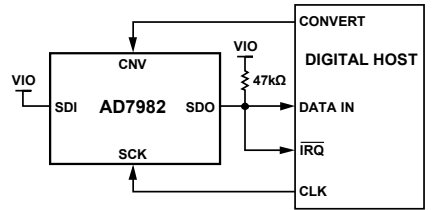
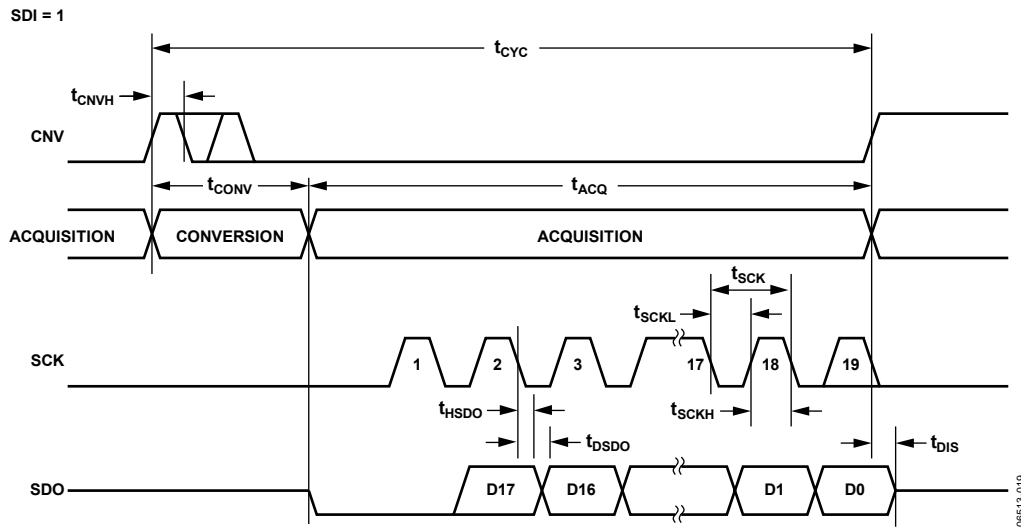
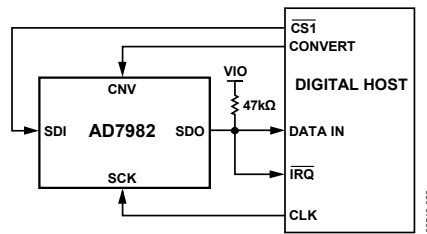
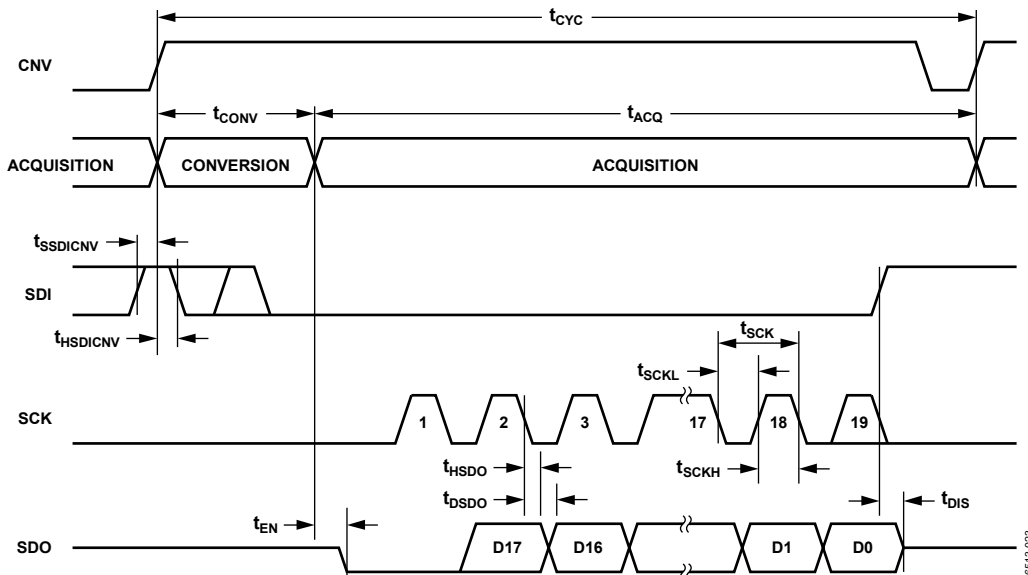

Figure 30. \overline{CS} Mode, 3-Wire with Busy Indicator Connection Diagram (SDI High)
Figure 31. \overline{CS} Mode, 3-Wire with Busy Indicator Serial Interface Timing (SDI High)
Figure 34. \overline{CS} Mode, 4-Wire with Busy Indicator Connection Diagram
Figure 35. \overline{CS} Mode, 4-Wire with Busy Indicator Serial Interface Timing
- In the $\overline{\text{CS}}$ mode if CNV or SDI is low when the ADC conversion ends (see Figure 31 and Figure 35).
The connection diagram is shown in Figure 30, and the corresponding timing is given in Figure 31.
The connection diagram is shown in Figure 34, and the corresponding timing is given in Figure 35.